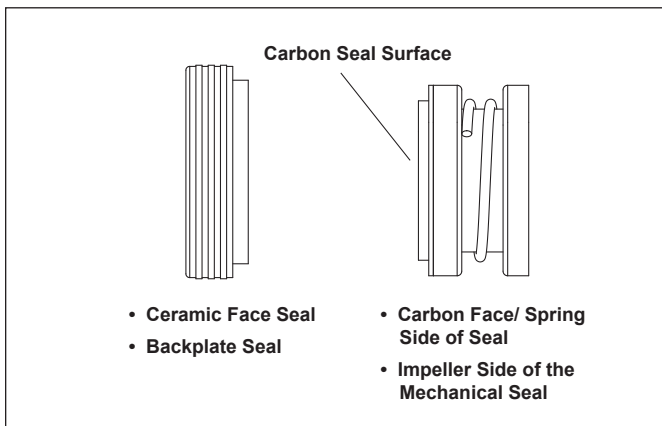

Figure 11. Replace the Mechanical Seal
1. Press the new carbon face seal half (see Figure 11) on the motor shaft using a twisting motion. Make sure the carbon surface is facing toward the ceramic ring in the backplate.
- Remove the carbon face seal half (see Figure 11) from the motor shaft. This is a spring-loaded seal. Grasp the portion of the seal closest to the impeller body and pull the seal off using a twisting motion.